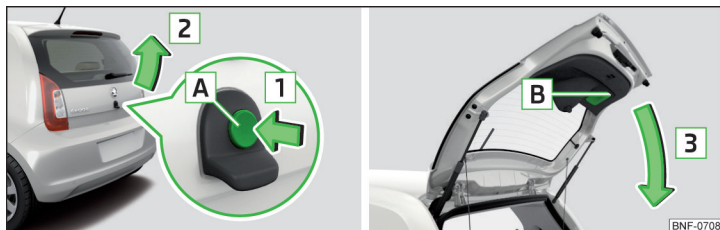

Fig. 34 Opening / closing the boot lid
Button **A** » Fig. 34 on page 41 is deactivated when starting or at a speed of more than 5 km/h. The button is reactivated when the vehicle has stopped and a door is opened.
- To **open** the lid, press » Fig. 34 button **A** in the direction of arrow **1**.